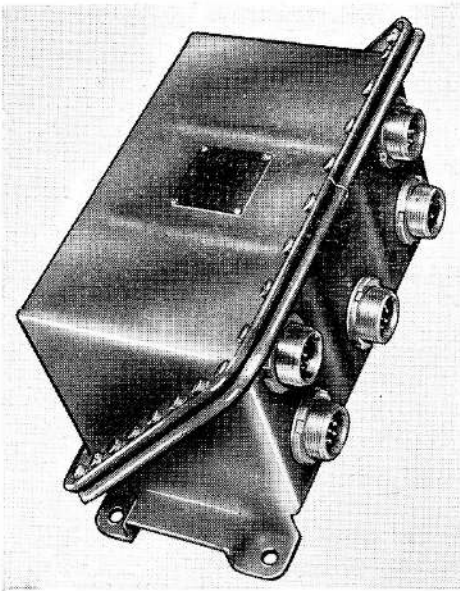

Fig. 1. Relay box, Type D1040
2. The relay box, shown in fig. 1, is hermetically sealed and is formed of two light-alloy pressings with flanged edges to permit the two halves to be bolted together. These pressings are similar in size and shape, with the top half serving as a lid and the bottom half being the portion secured to the aircraft.